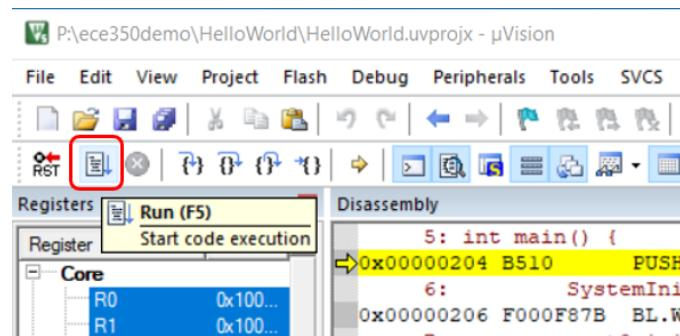
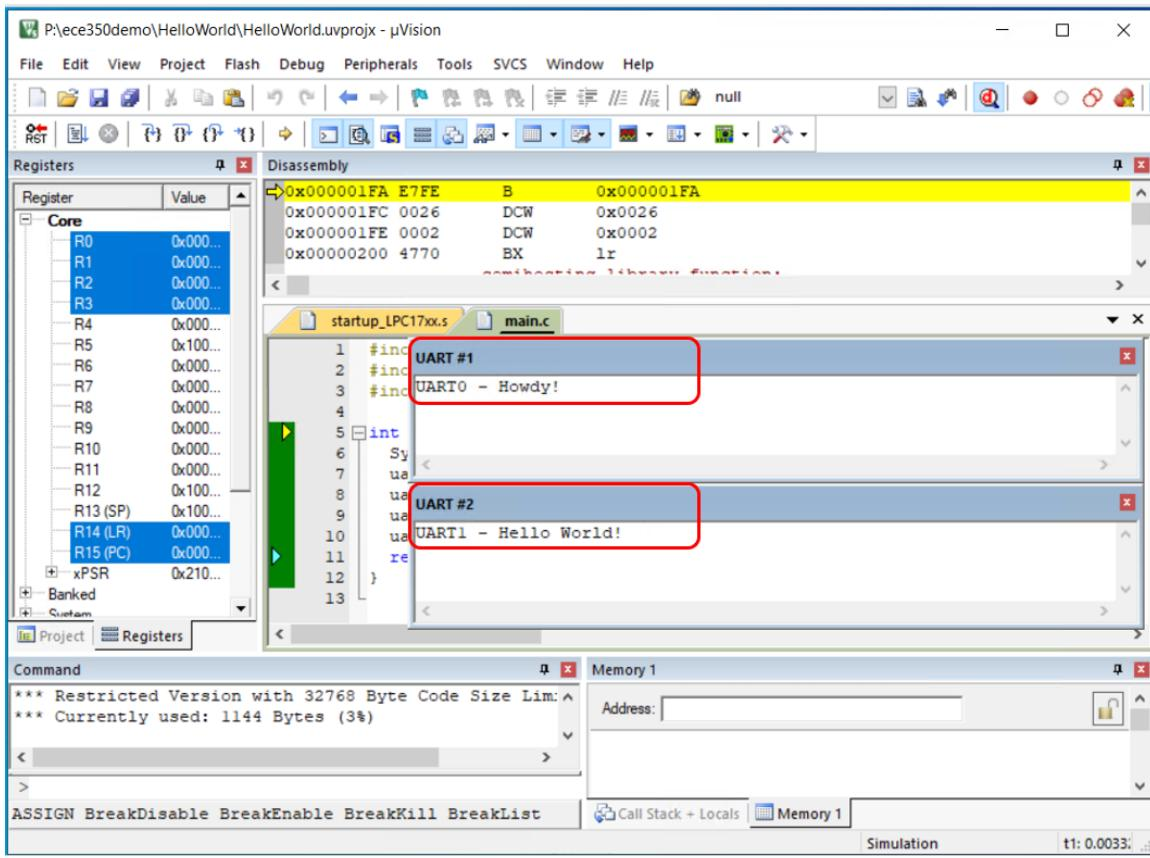

Figure 8.21: Keil IDE: Debugging. The Run Button.
Figure 8.22: Keil IDE: Debugging Output.
4. Press the “Run” button on the menu to let the program execute (see Figure 8.21). You will see the output of UART0 appearing in UART1 simulator window and the output of UART1 appearing in UART2 simulator window (see Figure 8.22). Note that we moved the UART windows from their default positions in the simulator for better view.